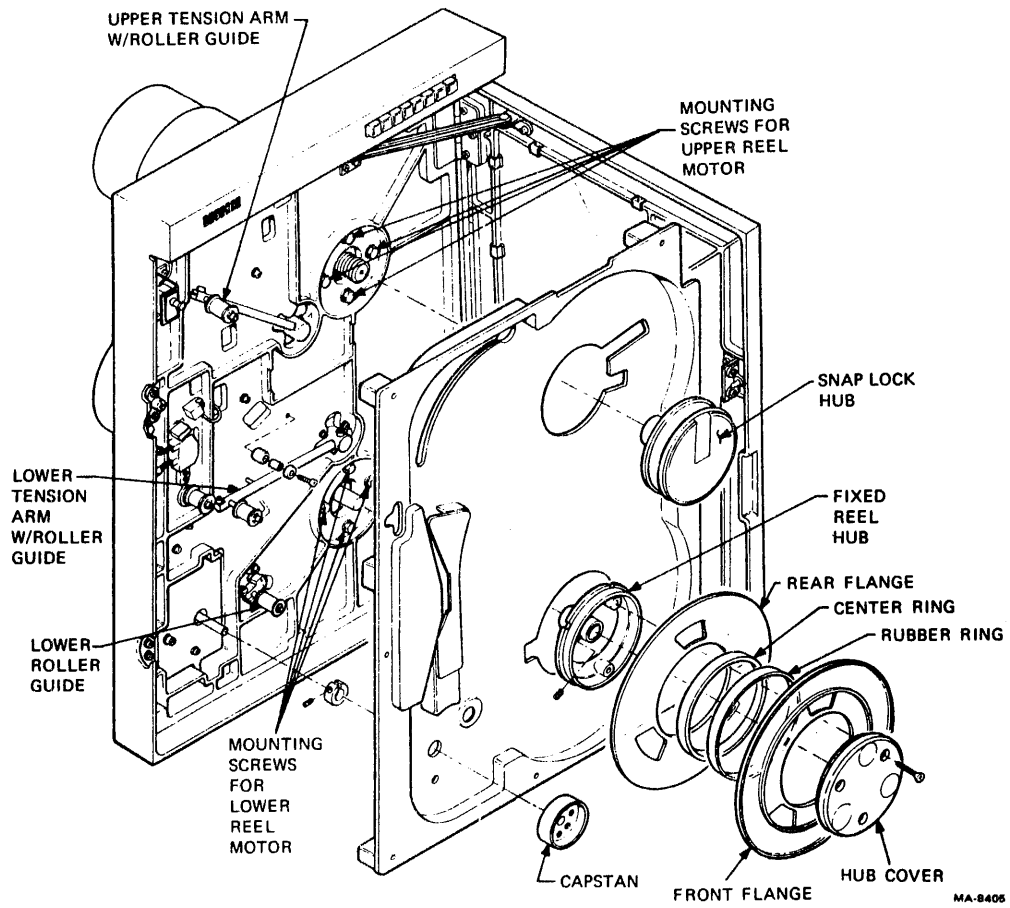

Figure 7-8 Deckplate Assembly
7.6.2.1 Snap Lock Hub Height Check and Adjustment – Check and adjust the snap lock hub height as follows. Refer to Figures 7-8 and 7-9.
7.6.2.2 Fixed Reel Hub Height Adjustment – Check and adjust the fixed reel hub height as follows. Refer to Figures 7-8 and 7-10.